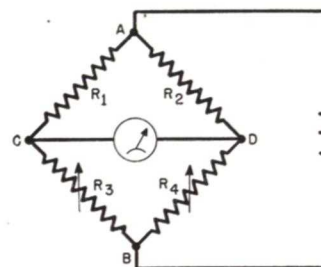
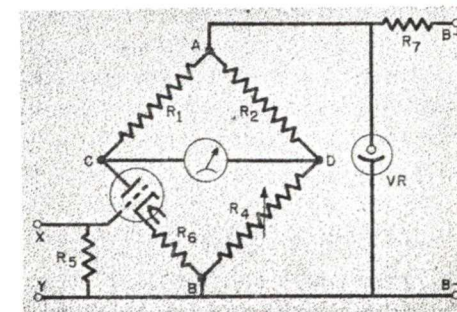
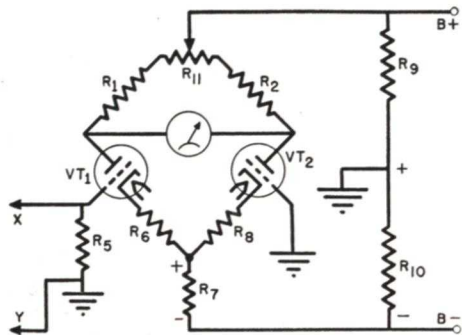

FIG. 8. A resistance bridge.
FIG. 9. Using a tube in a bridge in place of a resistance leg.
FIG. 10. A balanced tube bridge.
You will study the bridge circuit in more detail later, so here we'll just go into the basic principles briefly. A typical bridge is shown in Fig. 8.
To use this bridge principle in our v.t.v.m., we set up the circuit shown in Fig. 9. This is much the same as the circuit in Fig. 8, except that we've replaced variable resistor *R*₃ with a tube and bias resistor *R*₆. Resistors *R*₁ and *R*₂ are equal in value.
using a voltage regulator tube *VR* and a series resistor *R*₇, is shown in Fig. 9. This tube has the property of passing a much higher current when the voltage across it increases slightly. The voltage drop this current causes in resistor *R*₇ then drops the voltage across *VR*. The net effect is to keep the voltage across *VR*, which is the voltage supplied to the v.t.v.m., very nearly constant. Under normal conditions, a modern regulator tube can maintain the voltage across its terminals within 2 or 3 volts of its rated value.
An Improved Circuit. An even better bridge type v.t.v.m. circuit is shown in Fig. 10. Here another tube, exactly like the first one, is used in place of resistor *R*₄ of our original bridge circuit.
► An unusual feature of the circuit in Fig. 10 is the use of *R*₇ to get greater stability and higher sensitivity. Both plate currents flow through this re-
up. Therefore, this bridge becomes much more unbalanced for a given input than does the circuit in Fig. 9, and so is more sensitive. Also, the v.t.v.m. in Fig. 10 can be made more linear-reading than the Fig. 9 v.t.v.m. by choosing tubes whose characteristics balance each other.
A typical commercial bridge instrument is the RCA Junior Volt-Ohmyst shown in Fig. 11. Its circuit is basically the same as that of Fig. 10, with provisions to extend ranges and measure resistance.